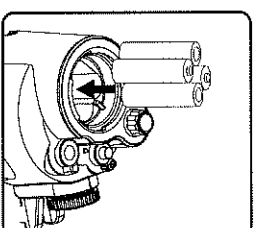

Fig. 2
2. Make sure that the mode switch is in the OFF position. Insert four batteries with the polarity shown in the battery compartment. (Fig. 2)